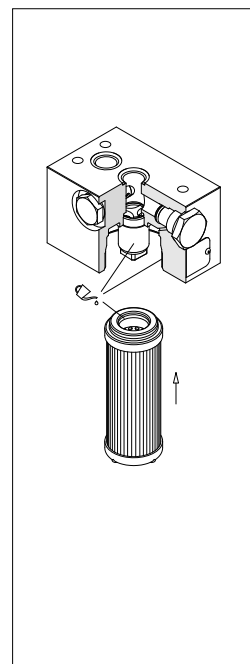

fig. 4
- (Fig. 4) Lubricate with the operating fluid the filter element O-ring, the housing tap and cavity, then fit the filter element on the tap. Pay attention not to damage the O-ring seal.